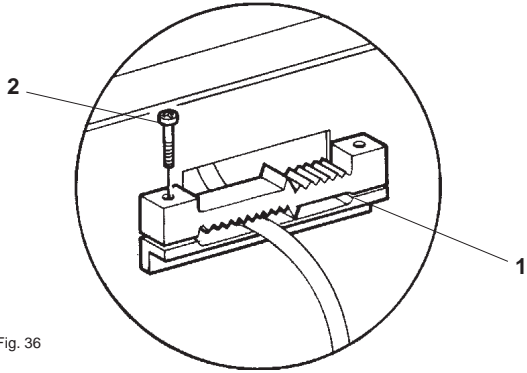

Fig. 36
5.14 (Fig. 36) Overturn the electrical mains cable, allow it to pass under the boiler unit and fix it with the relative screws 2 on to core hitch 3 on the rear wall.